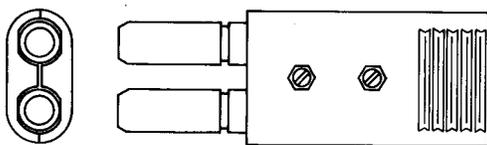

Fig. 12—462A Plug
**2.11 462A:** The 462A plug (Fig. 12) consists of a pair of coaxial plug fingers mounted in a metal shell. The inner contacts of the coaxial fingers are interconnected by two 61.9 ohm resistors (238A) in series. The outer contacts are strapped together and to the midpoint between the two resistors. The outer contacts of the fingers are not insulated from the metal shell. The 462A plug is used in the TH-3 Medium Haul System.